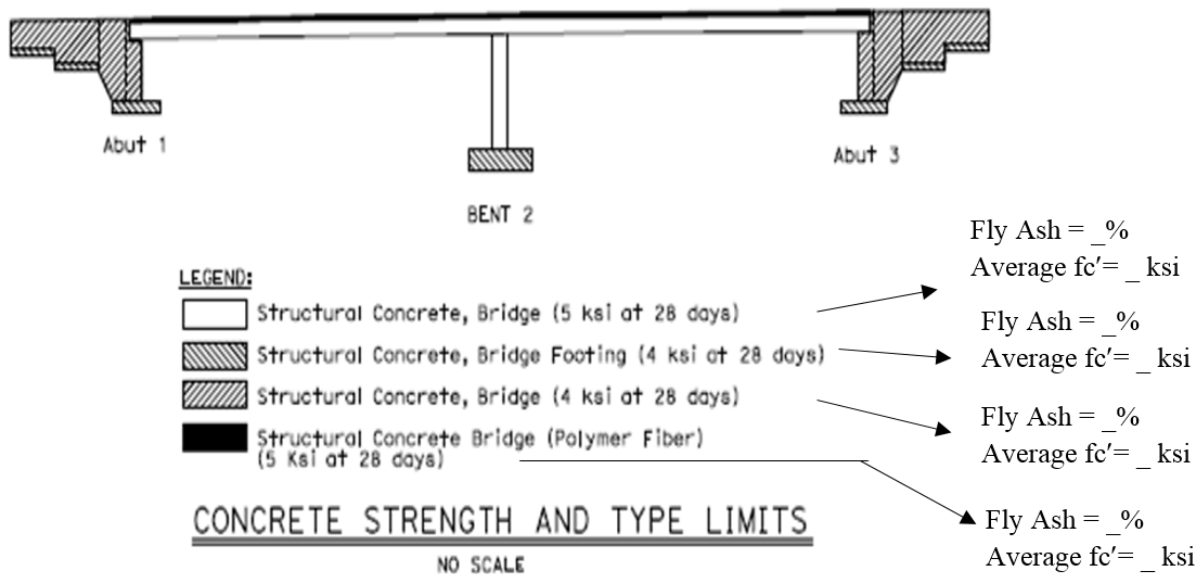

Figure 1. Actual Fly Ash Content and Actual Average Concrete Compressive Strength on As-Built Project Plans.
8. For structures with structural concrete, show the actual percentage of mineral admixture (i.e. fly ash, silica fume) and actual average compressive strength in each element of the structure on the “Concrete Strength and Type Limits” detail shown on the project plans. See Figure 1, *Actual Fly Ash Content and Actual Average Concrete Compressive Strength on the As-Built Project Plans*, for an example of the information that needs to be shown.